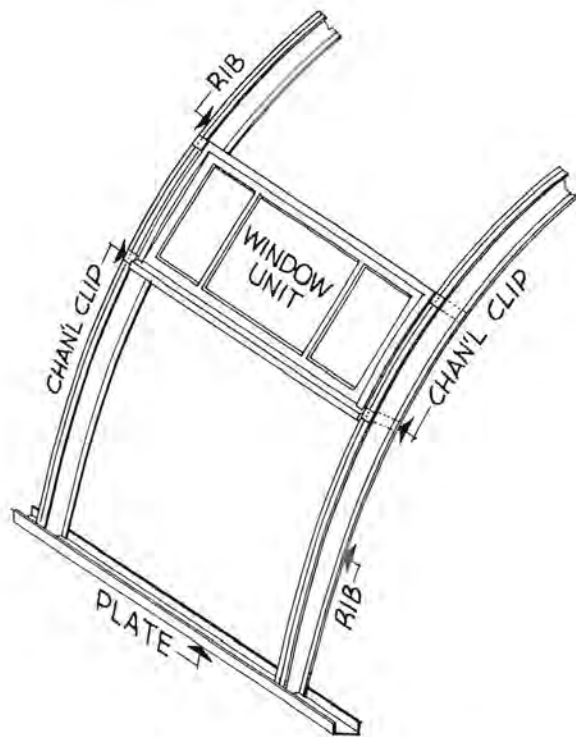

FIG. 1
3. Fasten the trimmers to the next rib while it is on the floor. Raise this rib, fasten the trimmers to the rib already raised (see figure 1), and secure the rib to the channel plate. Repeat this operation for each successive rib. Since end ribs have no trimmers do not raise them until purlins are in place (see item 4 below).